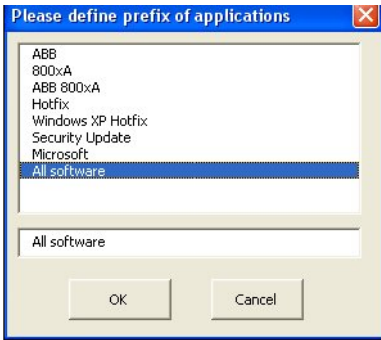

Figure 92. Create Node Application Relation
Figure 92 shows the selected Create Node Application Relation.
- 4. Select the application to be compared and click **Ok**, see Figure 92.